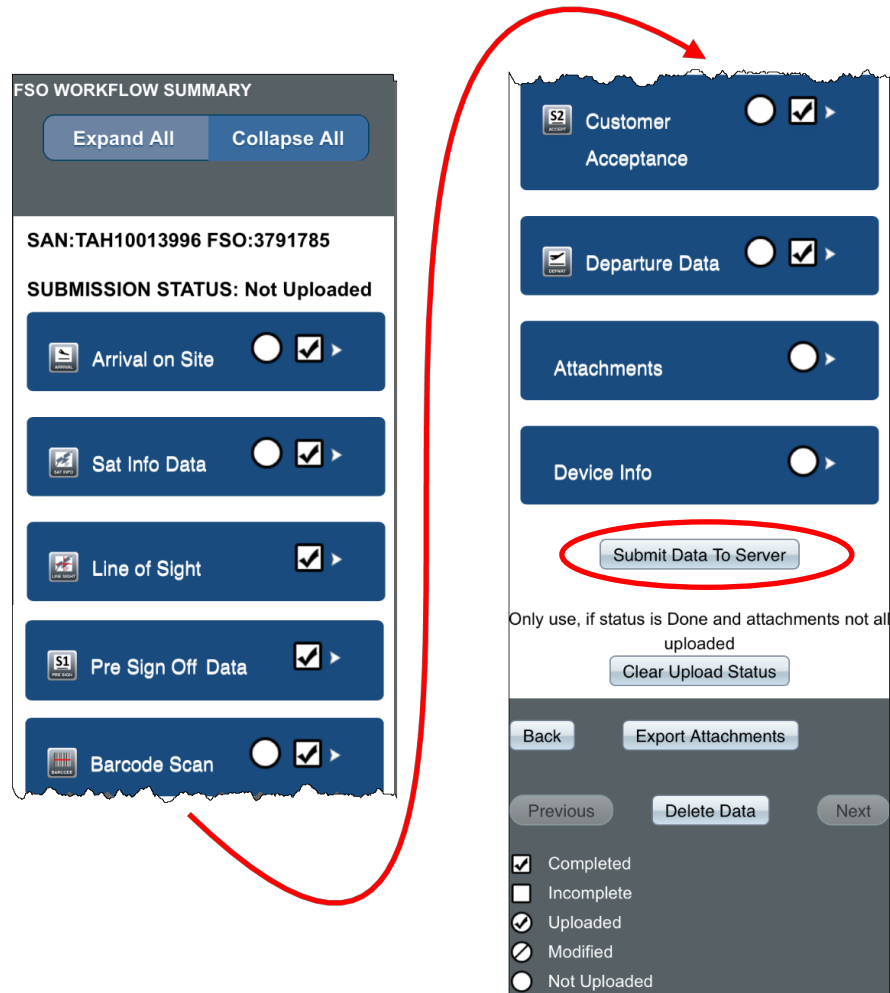

Figure 57: FSO Step Summary page
The FSO Step Summary page (Figure 57) provides a list of each step you completed. Tap any step menu to expand it and see additional details.
1. Tap **Submit Data To Server** (circled in Figure 57).